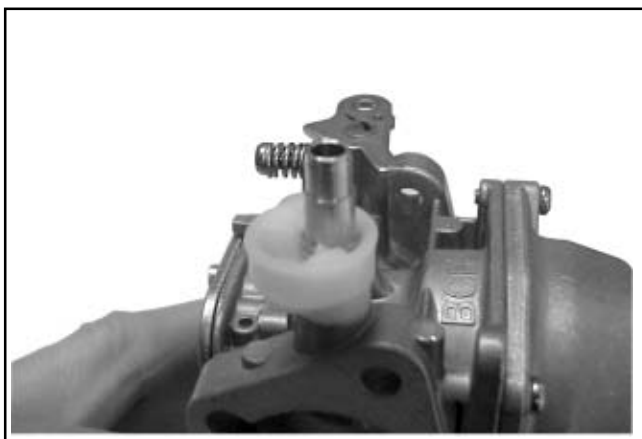

Figure 5-34. Installing Bushing.
8. Turn the old bushing upside down and use it as a driver to carefully press or tap the new bushing into the carburetor body until it bottoms. Check that the choke lever pivots freely without restriction or binding. See Figure 5-34.